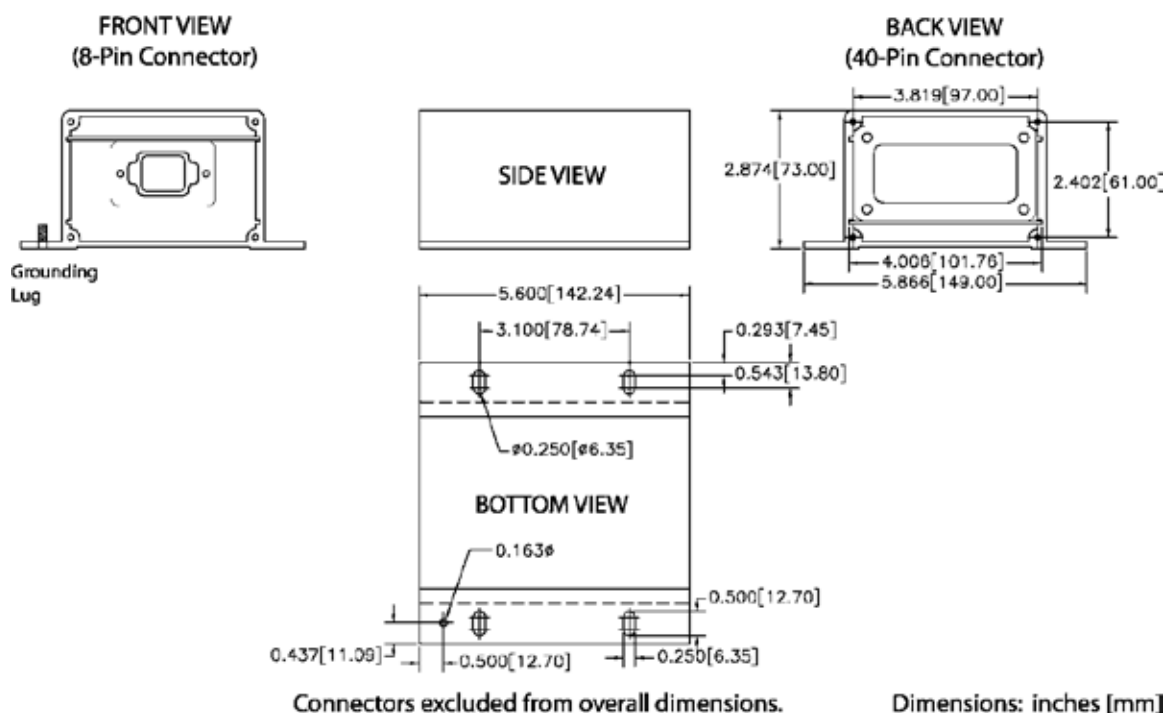

Figure 31.19 – Thermocouple, RTD, and Discrete I/O Module Physical Layout
- Reads twelve (12) discrete inputs and sets eight (8) Form C Relay Outputs.
- Compact size (see mechanical drawing, Figure 31.19).